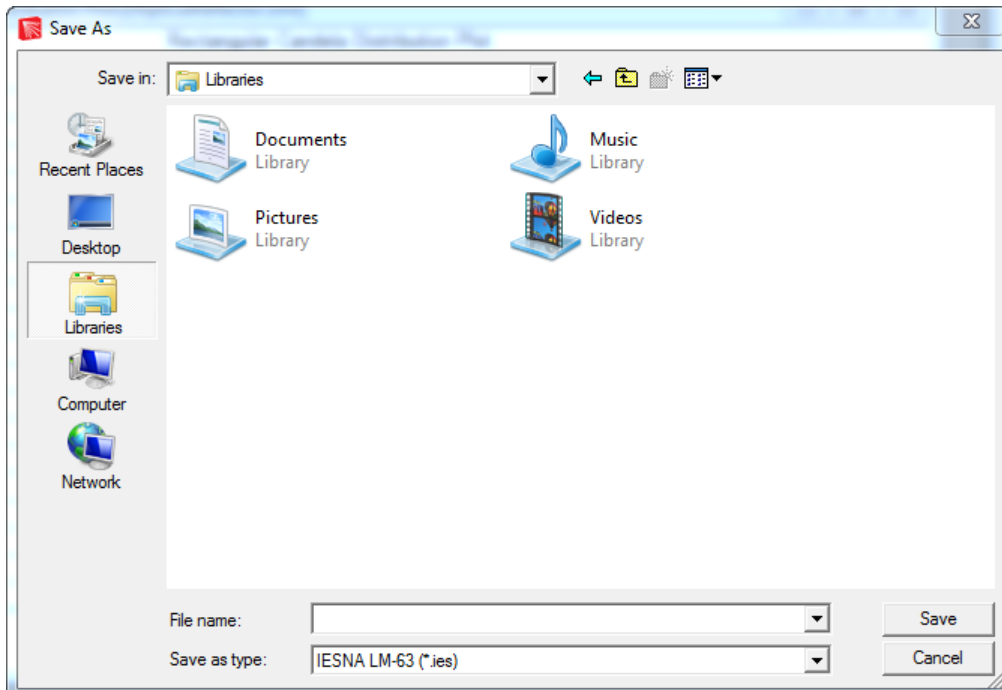

FIGURE 6.25 - Save As dialog for candela plots with IESNA type selected.
Figure 6.25 shows the dialog that appears when you select Save As. There are four options for the file types: text (*.txt), IESNA LM-63 (*.ies), Eulumdat (*.ldt), and bitmap (*.bmp). The text file option saves the data to a text file. The bitmap option saves a bitmap screen shot of the plot. The IESNA and Eulumdat options provide a number of options to save the data. The following paragraphs explain and show these options.
- Checkbox: checking this box will open this dialog whenever the Eulumdat (*.ldt) file type is selected. If the box is unchecked, then this dialog will not automatically open, but it can be manually opened by clicking on the Modify File Defaults button as shown in Figure 6.25.